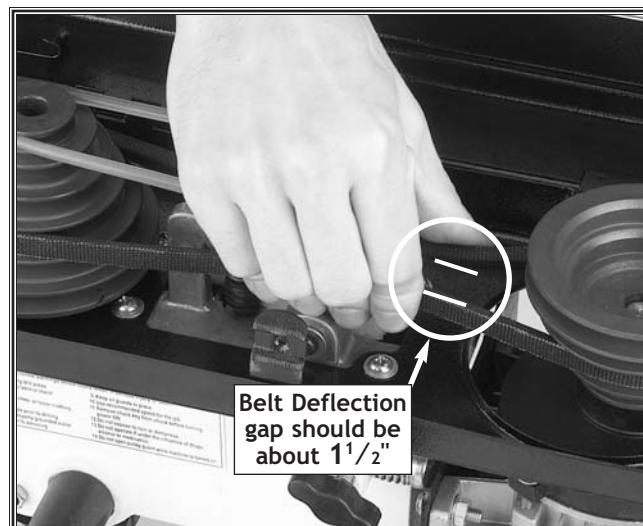

Figure 17. Measuring belt deflection.
6. Tighten the lock screw, and make sure the belt deflection gap is correct when pinched together between the pulleys. See **Figure 17**.